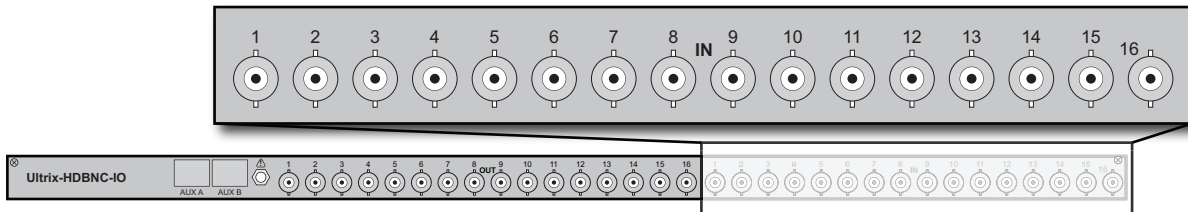

Figure 48 Ultrix Rear Panel — IN BNC Mapping for an ULTRIX-HDBNC-IO Blade
**Figure 48** outlines the SDI input cabling designations for an ULTRIX-HDBNC-IO blade. The input BNCs are located on the right side of each blade.